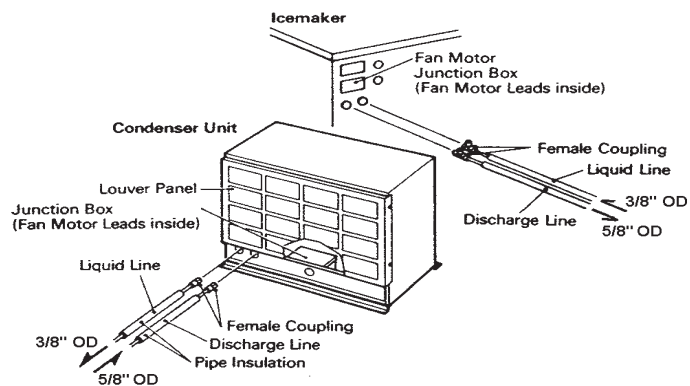

Fig. 11
- 3) Install enough length of two copper tubings provided with Parker quick connect couplings between the icemaker and the condenser unit. The two copper tubings should be insulated separately. See Fig. 11.